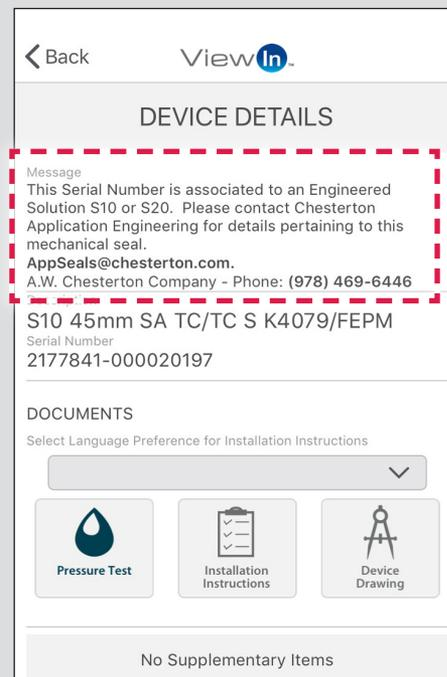

Figure 19
If a scanned seal is an Engineered Solutions (ES) custom seal, the following message is displayed (Figure 19). Please follow the instructions and contact Application Engineering at AppSeals@Chesterton.com